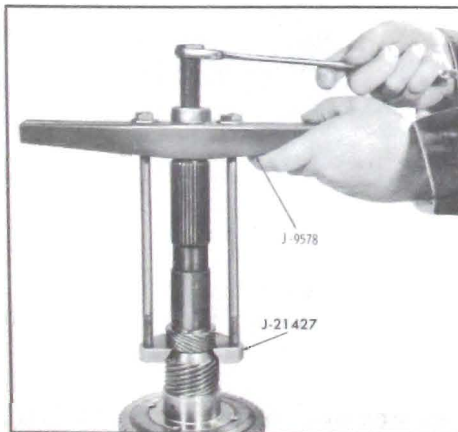

Figure 5-563
a. Install Speedo Gear Removing Tool, J-21427 and J-9578, on output shaft and remove drive speedo gear. See Figure 5-563.